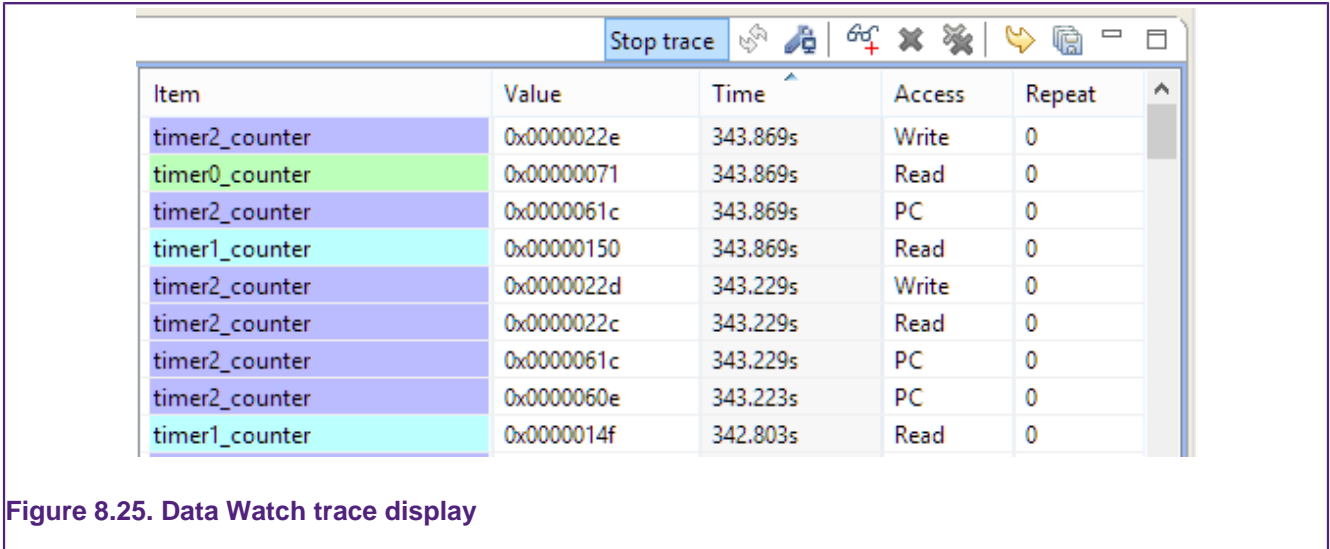

Figure 8.25. Data Watch trace display
- **Enable Trace** - tracing of this item may be enabled or disabled using the checkbox. A maximum of 4 items may be traced at one time. Each traced item is given a color code, so that it may be picked out easily on the trace display (see Figure 8.25).
The trace display shows the traced values of the memory locations. Each location being traced is given a particular color code, to allow all access to it to be easily picked out. See Figure 8.25.